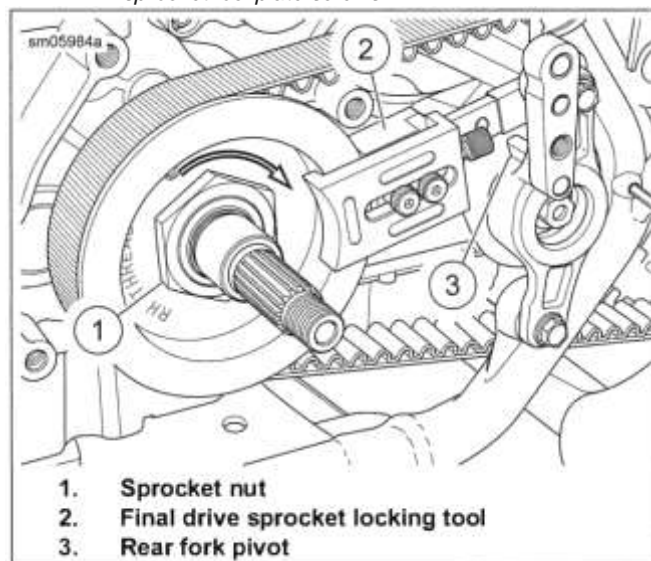

Figure 5-38. Sprocket Nut Installation
- d. See Figure 5-38. Install sprocket locking tool (2) against rear fork pivot (3).